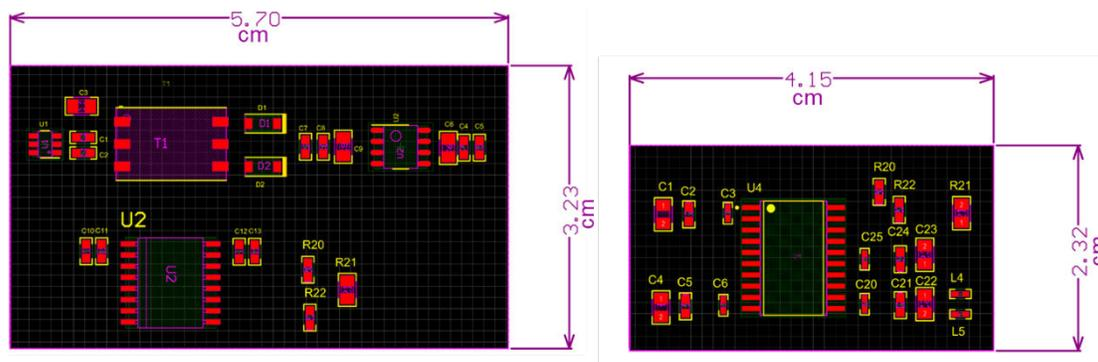

Figure 3. Board space comparison of discrete (left) and integrated (right) isolated RS-485 sub-systems
- **Board space savings.** One of the key benefits of a single-chip solution is the board space savings compared to other discrete implementations. As system designers look to reduce solution size and/or add functionality with each new product generation, incorporating a single chip solution for an isolated RS-485 can help to save 48% board space, as shown in Figure 3.